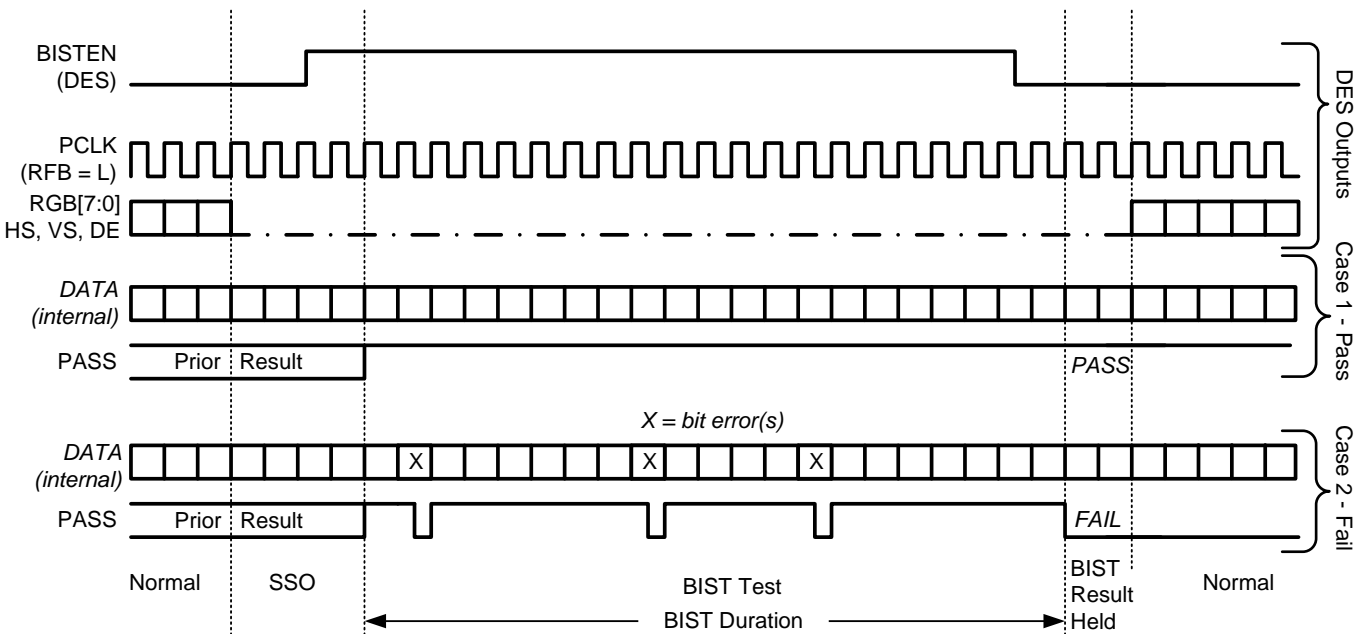

Figure 14. BIST Waveforms
**Step 4:** The Link returns to normal operation after the deserializer BISTEN pin is low. Figure 14 shows the waveform diagram of a typical BIST test for two cases. Case 1 is error free, and Case 2 shows one with multiple errors. In most cases it is difficult to generate errors due to the robustness of the link (differential data transmission etc.), thus they may be introduced by greatly extending the cable length, faulting the interconnect, reducing signal condition enhancements (Rx Equalization).